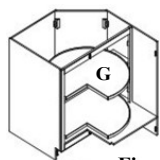

Figure 7
- 7. Insert shelf with turntable (G)** into position, align the cam locks under the shelf and lock. (**Figure 7**)